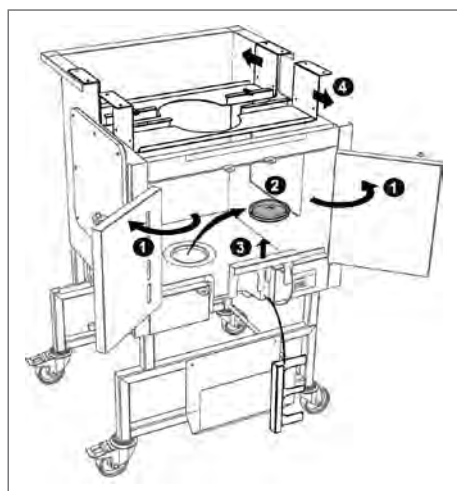

Figure 43
5. Open the hinged front door by the locking systems and remove the front 4-port system gate by sliding it up from its position (see 1 and 3 of Fig. 43).
6. Position the clamp holder on top of the Palletank® and slide its two parts open. (see 4 of Fig. 43)
7. Remove the centering aligner (see 2 of Fig. 43).